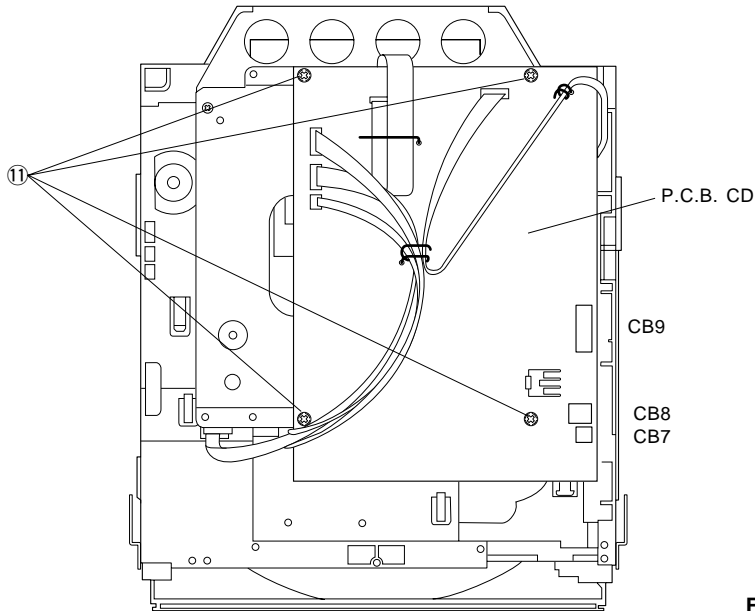
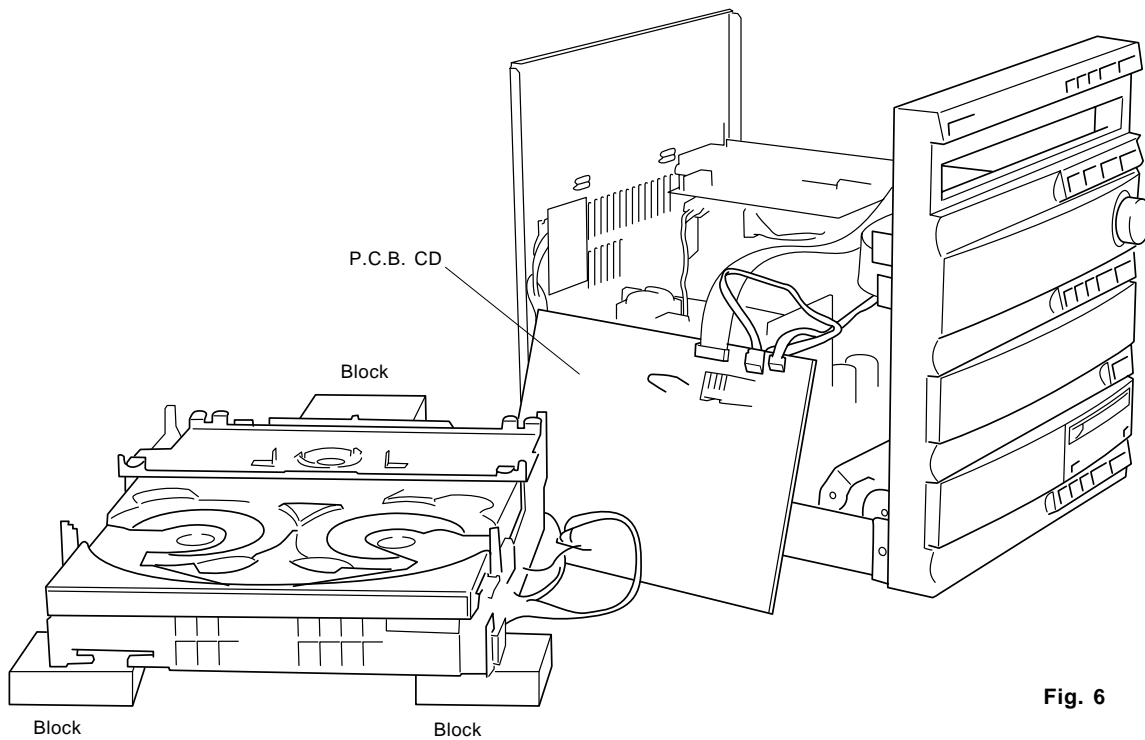

Fig. 5
Fig. 6
- b. Remove 4 screws ( ⑪ ) and then remove the P.C.B. CD in Fig. 5.
- c. Place blocks (at 3 locations) to hold the CD Mechanical Unit horizontally as shown in the Fig. 6.
- d. Connect the Flat Connecting Cable ( CB9 ) and 2 connectors ( CB8 and CB7 ) in Fig. 5 and Fig. 6.